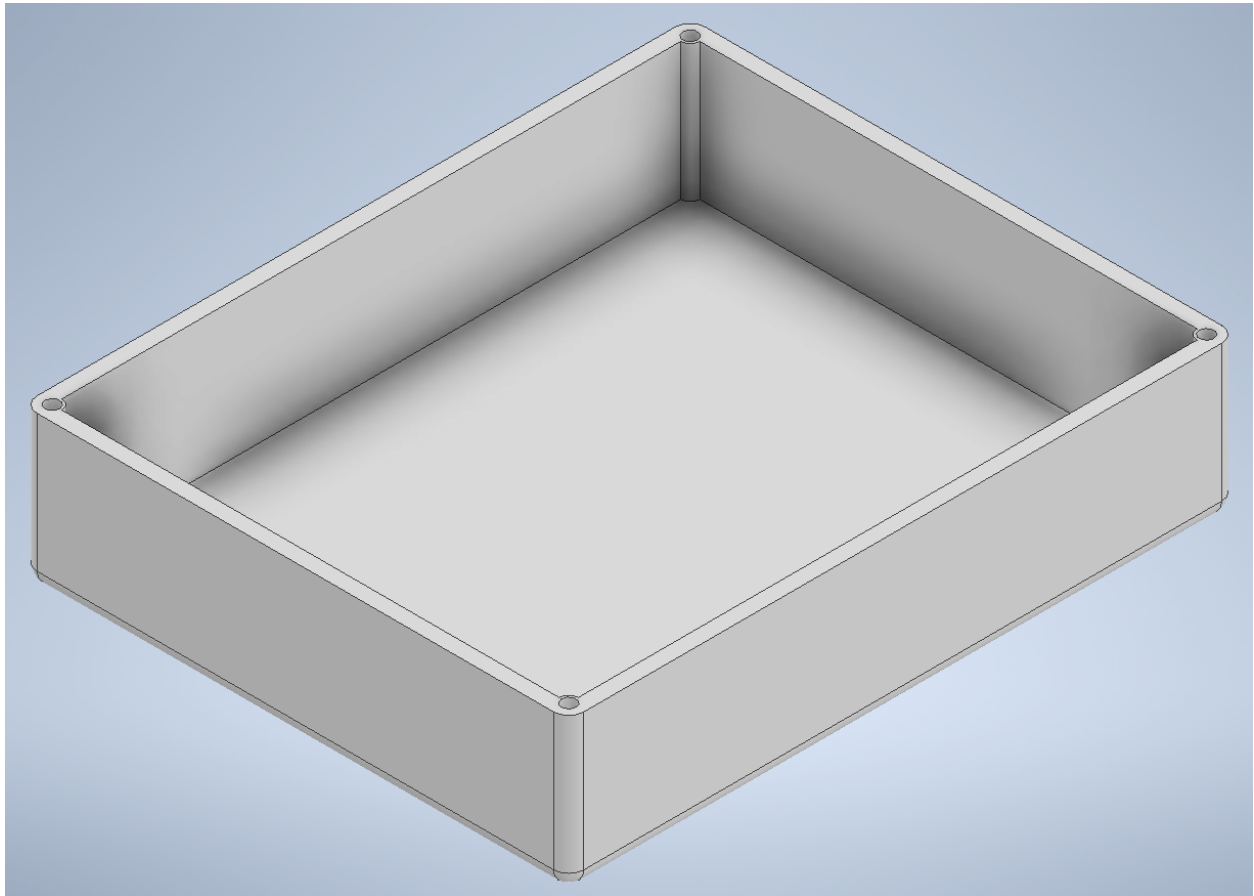

Figure 8-8: Finalized Roulette Wheel Box
3. Put two 0.02" diameter holes through one wall of the box in order to put power wires through them. The box can be shown in figure 8-8.